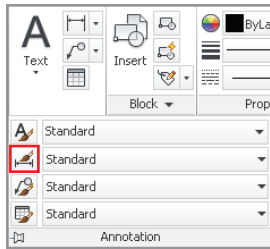

FIGURE 11.2
2. Select the Home tab on the ribbon if it is not already selected. Expand the Annotation panel, and click the Dimension Style tool (see Figure 11.2).